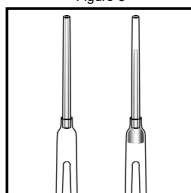

Figure 4
6. **Required for R-8510D only:** Pull the VACUette into a vertical position. A small portion of the collected sample should fall into the sleeve of the VACUette tip (fig. 4).